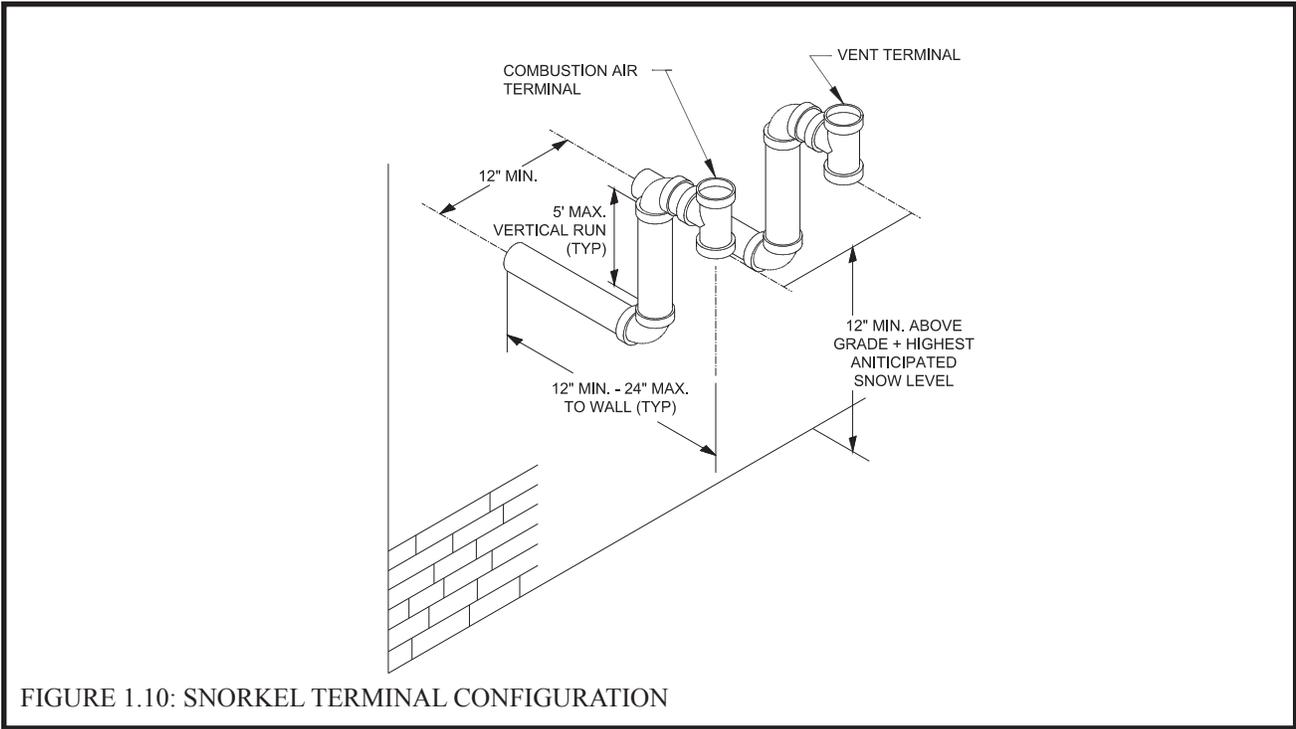

FIGURE 1.10: SNORKEL TERMINAL CONFIGURATION
- b. PVC Tees on Snorkels - If desired, the PVC Tees terminations may be installed on snorkels as shown in Figure 1.10. When this is done, all exterior piping except for the termination Tees themselves must be counted when calculating the equivalent length. The maximum vertical run of the snorkel is 5ft. Observe all restrictions on the location of the Tee terminal described in Paragraph 6.